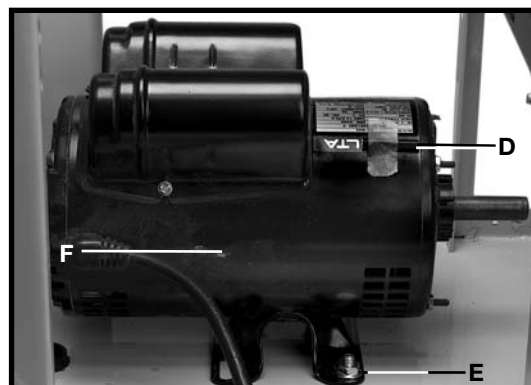
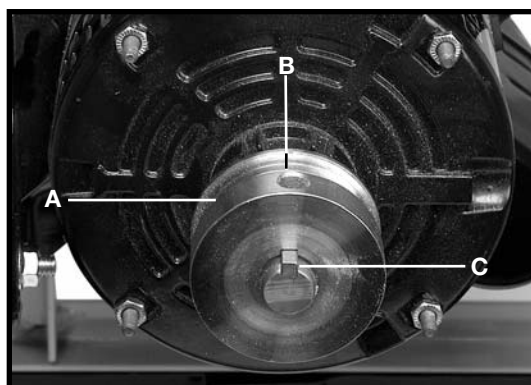

Fig. 5
Fig. 7
3. Remove the two mounting screws that are holding the motor (F) Fig. 5 to the top of the stand. One screw is shown at (E) Fig. 5.
Attach the motor pulley (A) Fig. 7 to the motor shaft, making sure that the set screw (B) in the motor pulley engages with the key (C) in the motor shaft. **NOTE:** The key (D) Fig. 5 is shipped taped to the motor. Remove it, place it on the motor shaft, and attach the pulley over it.
2. Place a straight edge against the belt along the V-groove of both pulleys. Visually check to see that both pulleys are in line. Either pulley can be moved in or out by loosening the set screw (the lower pulley set screw is shown at (B) Fig. 7). After aligning, tighten the set screw. The motor can also be moved on the mounting bars.